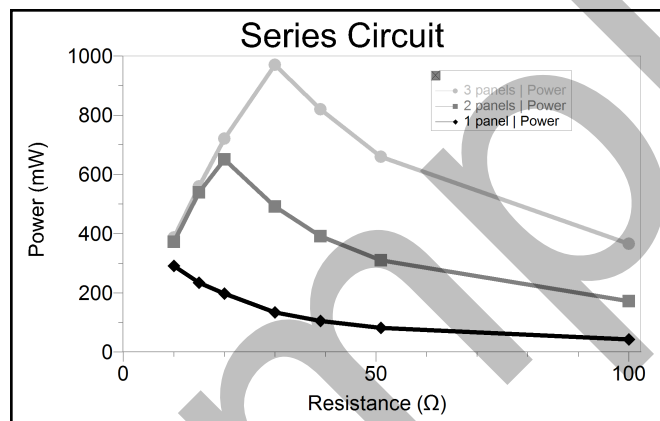

Figure 1
- Students collect data to analyze the effect of load on three Solar Panels connected in series. Figures 1 and 2 show the effect of load on one, two, and three Solar Panels, in case you are interested.